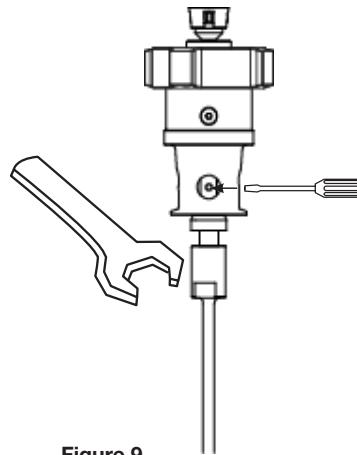

Figure 9
- Insert a small screwdriver (or similar object) through the small hole on the shaft located inside the mechanical seal inspection port (see Figure 9).
- While holding the small shaft still, loosen (counterclockwise) the drive shaft/rotor assembly with a large wrench (see Figure 9).
- Thread drive shaft/rotor assembly onto bearing housing shaft (see Figure 9).